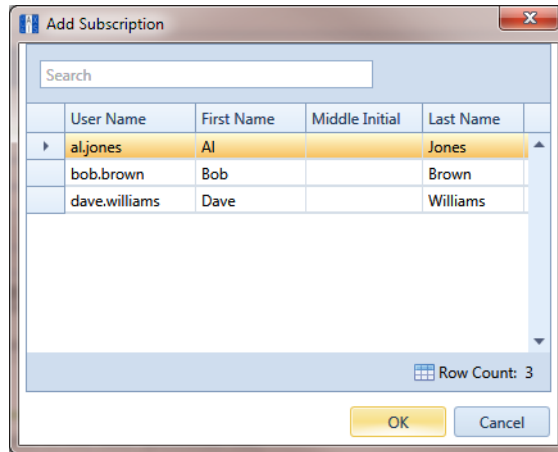

Figure 16-5. Add Subscription
- 2 Click **+ Add** to open the *Add Subscription* dialog box (Figure 16-5, page 680).